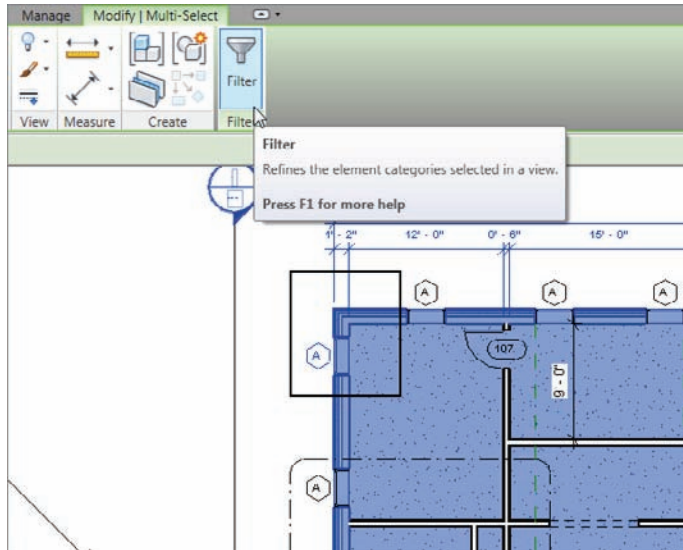

FIGURE 6.34 To select the slab, it will be easier to pick an entire area and filter the floor.
1. In the Project Browser, go to the Level 1 floor plan and then zoom in to an area of the east wing similar to the area shown in Figure 6.34.
2. Drag a right-to-left selection window around the corner of the building, as shown in Figure 6.34.
3. On the Modify | Multi-Select tab, select the Filter button (see Figure 6.34).